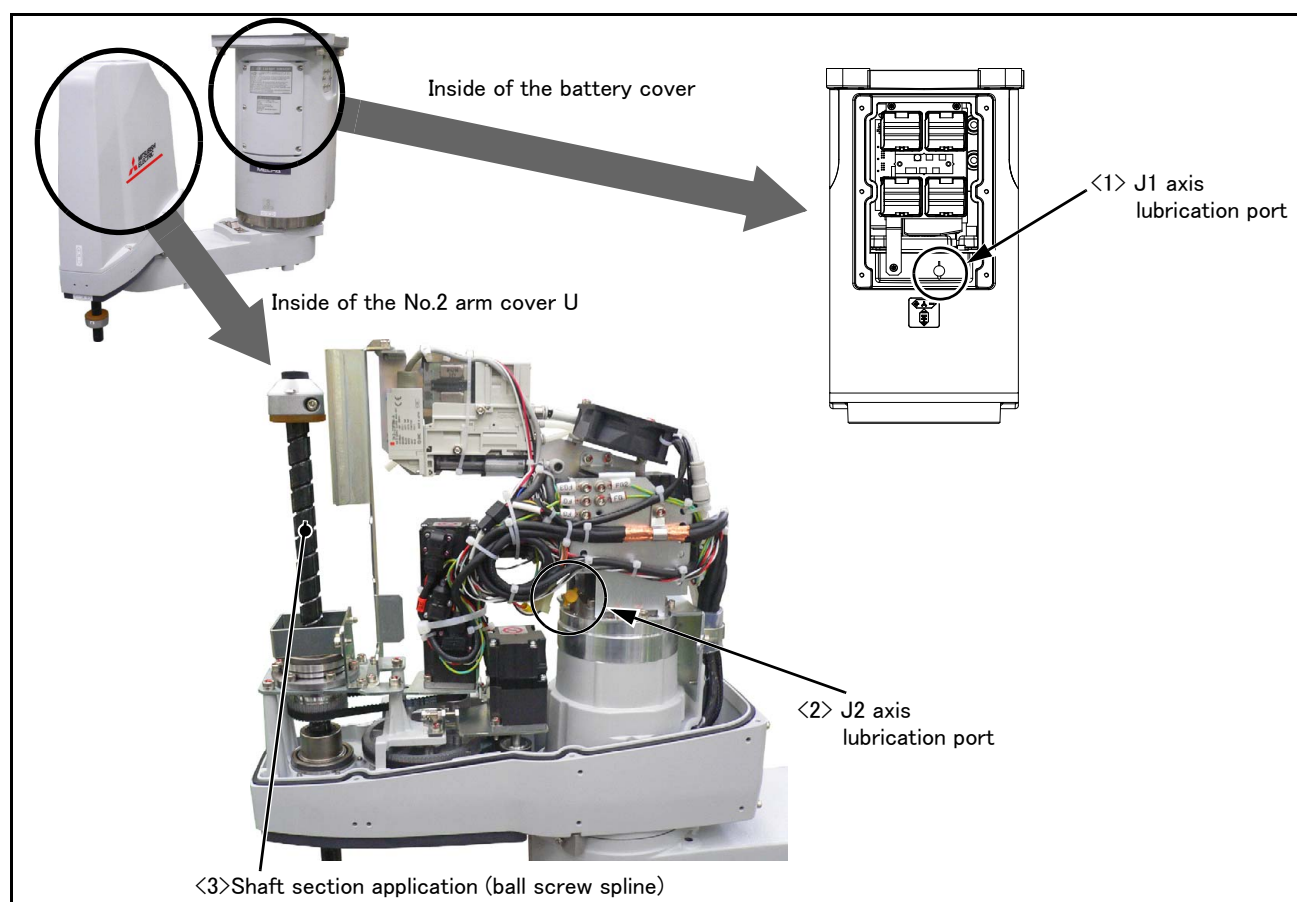

Fig.5-13 : Lubrication positions
- The numbers in the Table 5-8 correspond to the supply positions in Fig. 5-13.